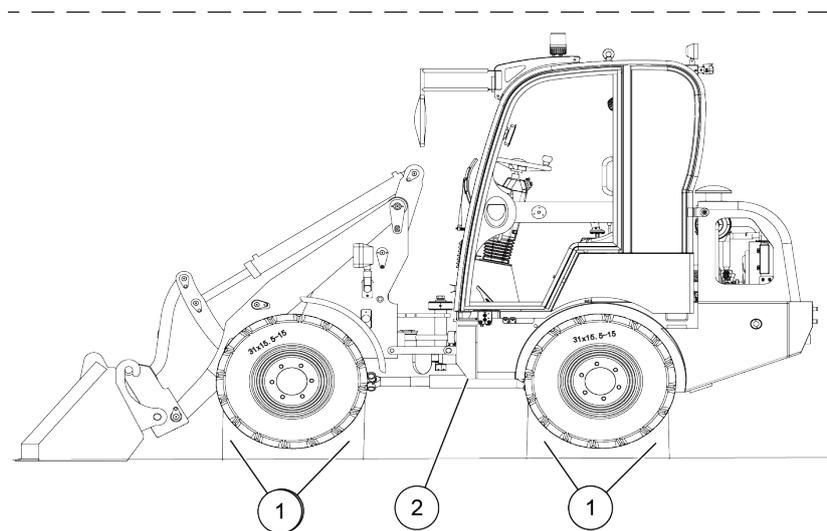

Figure 3-11 Fixed point
- 3)Use special fixed points to fix loader to prevent loader from tipping or rolling, as shown in Figure 3-11.